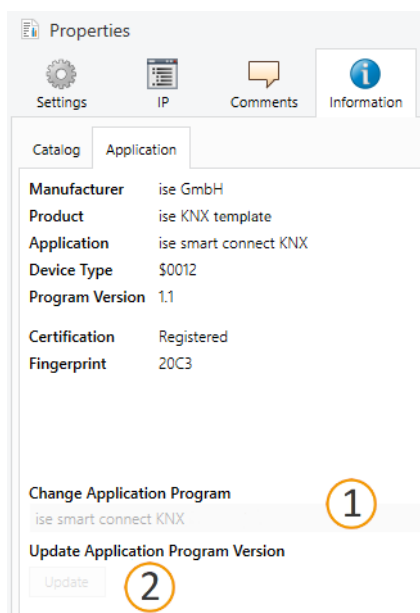

Figure 20: Updating the application program
5. Select the <<Update>> button under the item <<Update application program version>> (see figure 20, item 2)
○ If you change the value under <<Change application program>> (see figure 20, item 1), user-defined settings such as links to group addresses will be lost.